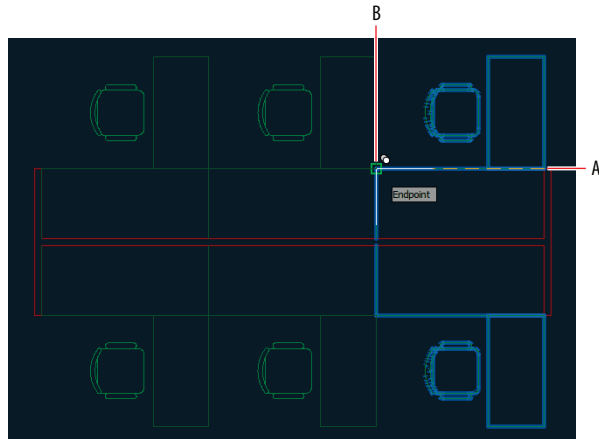

FIGURE 4.12 Copying multiple items
- Press the spacebar to repeat the previous command, select both desks and chairs with crossing windows (but not the low partition between them), and press Enter. Select point A in Figure 4.12 as the base point. Type **A** and press Enter. The command prompt reads as follows:
9. Type **3**, press Enter, and then click point B in Figure 4.12 as the second point. Press Esc to end the COPY command.